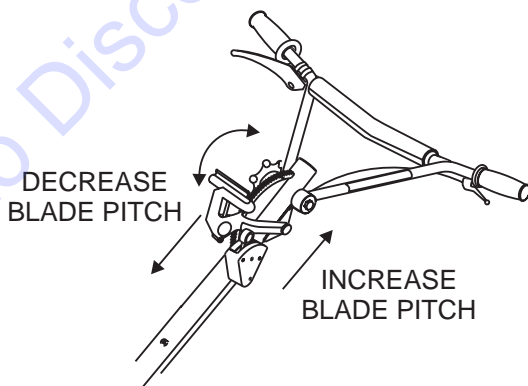

Figure 29. Quick-Pitch™ T-Handle
- To pitch the blades upwards using the "**Quick-Pitch™ T-handle**", (Figure 29) simply squeeze the trigger lock and pull the **T-handle** towards the operator. Pushing the **T-handle** towards the engine will cause the blades to lay flat.